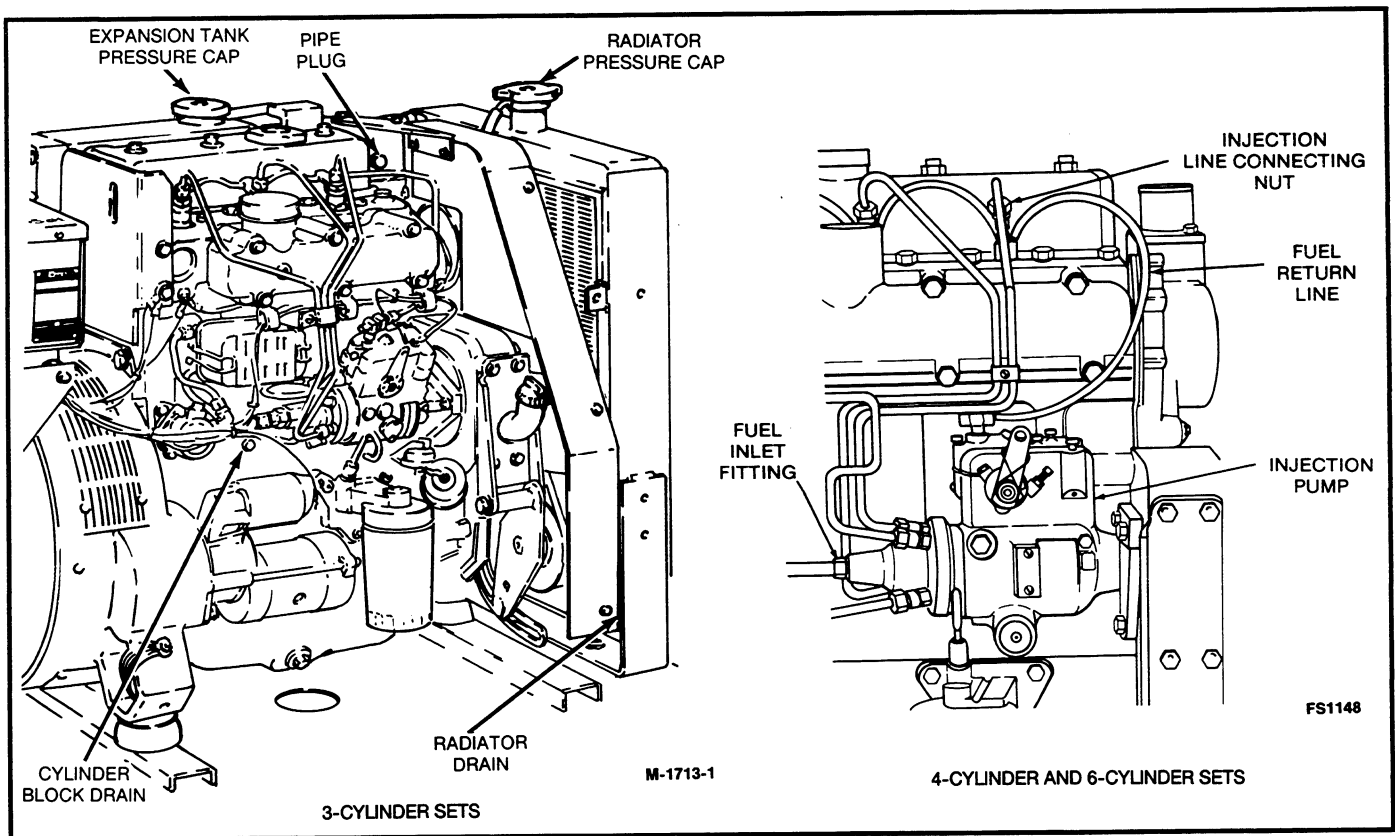

FIGURE 8-2. INJECTION PUMP
2. Loosen the fuel filter-to-injection pump line at the injection pump fuel inlet fitting (Figure 8-2).
1. Loosen the fuel injection line connecting nut (Figure 8-2) attaching each line to its corresponding nozzle holder.